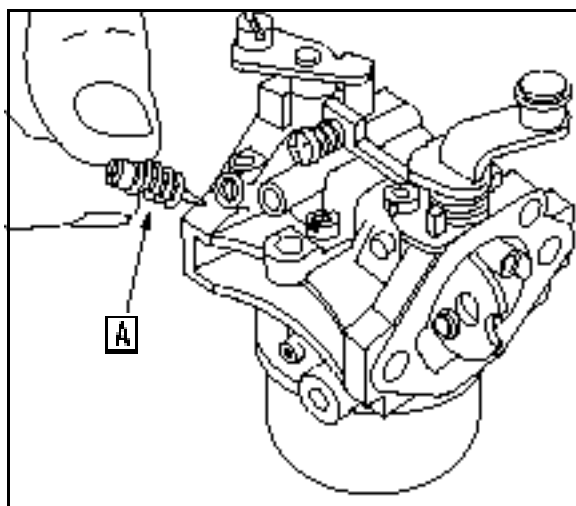

Fig. 100
8. Remove idle mixture screw with spring ([A] Fig. 100).